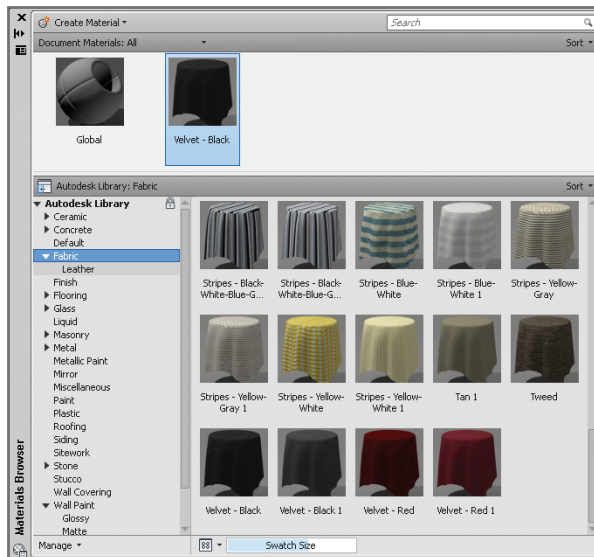

FIGURE 18.2 Loading a material from the Autodesk library into the document
3. Select the ribbon's Render tab, and click the Materials Browser toggle in the Materials panel. In the Materials Browser palette that appears, select the Fabric category in the Autodesk library, scroll down the list of materials in the right pane, and click Velvet – Black to load it into the document (see Figure 18.2).